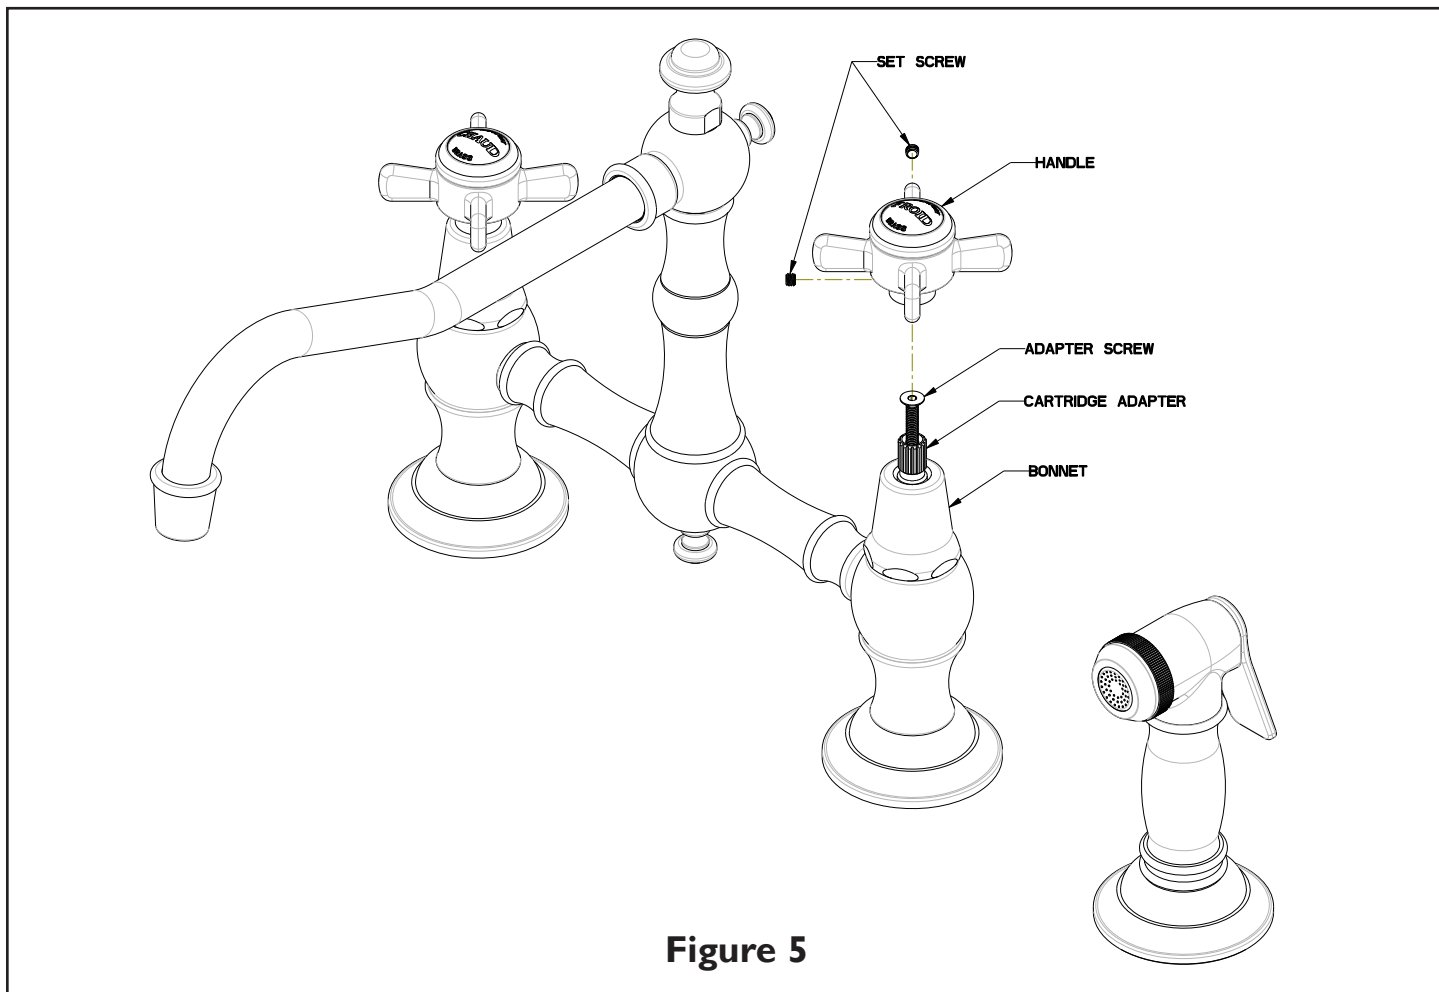

Figure 5
1. In **Figure 5**, ensure cartridges in full closed position and check HANDLE alignment. If the HANDLE is not correctly aligned, temporarily remove the HANDLE, loosen up (but do not completely remove) the ADAPTER SCREW and rotate CARTRIDGE ADAPTER one tooth clockwise (18 degrees), reassemble the HANDLE and recheck alignment. Repeat until the HANDLE is aligned.